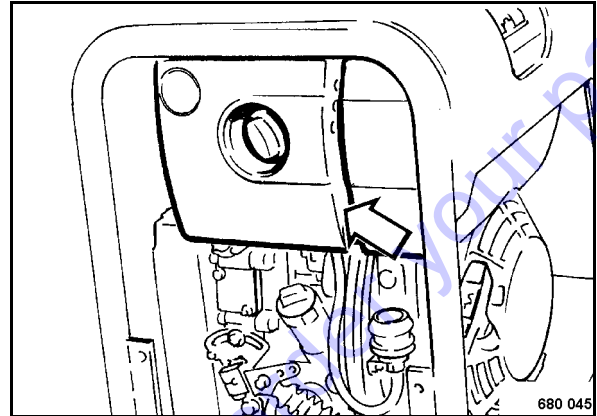

Fig. 59
- Remove the air filter cover (Fig. 59).